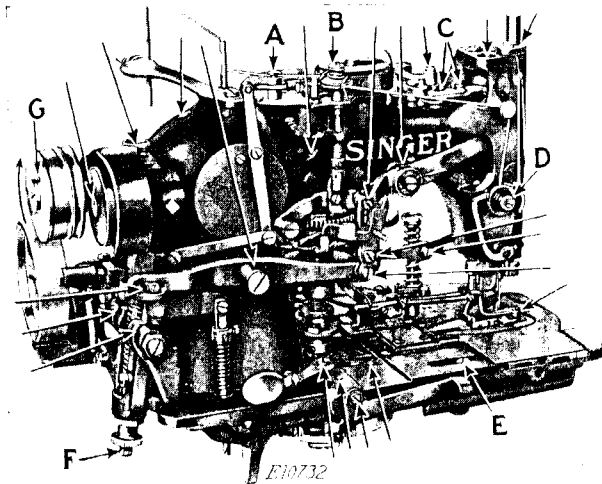

Fig. 7. Oiling Points at the Left of the Machine
Occasionally remove the screw (G, Fig. 7) from the loose pulley and apply a small quantity of Singer Ball Bearing Lubricant to the ball bearing of the pulley through the tapped hole, then replace the screw (G).
Machines 71-141 and 71-142 have two thumb nuts (B and D, Fig. 7) for regulating the tension on the needle thread. When making purl stitch buttonholes the tension on the needle thread should be sufficiently strong to draw the purl evenly to the upper side of the buttonhole.
The amount of cutting space between the lines of stitching is regulated by the screw (E, Fig. 7) in the slot in the bed of the machine. To make the cutting space wider, loosen this screw and move it backwardly in the slot. To make the cutting space narrower, move the screw toward you in the slot, then tighten the screw.
The needle bar frame pitman is adjustable by means of the two screws (C, Fig. 7); loosen these screws and move the needle bar frame until the needle on the right hand dip and knife are in exact alignment or to the left of the knife, half the amount of the cutting space, when the machine is stitching the first side of the buttonhole.